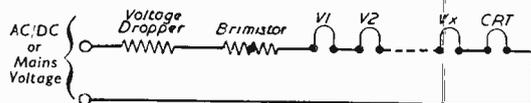

Fig. 23.—This is the series heater arrangement.
A.C./D.C. televisions are invariably series connected. (Fig. 23.)